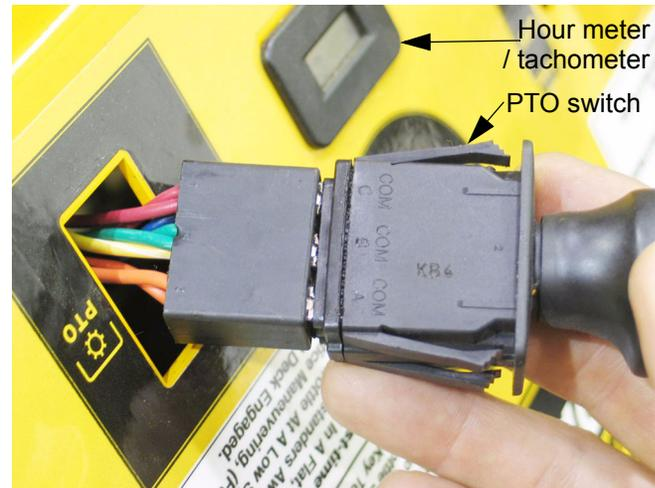

Figure 28.4
28.4. The **PTO switch** is easily removed from the front surface of the control housing. See Figure 28.4.